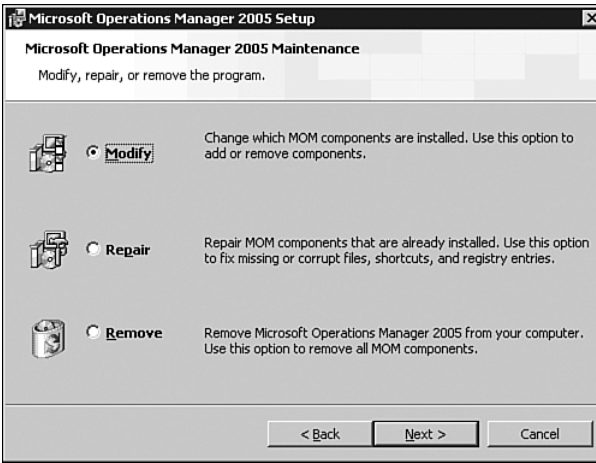

FIGURE 19.1 The Modify option of the MOM 2005 Setup screen.
1. Navigate to Control Panel on the Management Server. Open Add or Remove Programs, select Microsoft Operations Manager 2005, and click on the Change button. From the Microsoft Operations Manager 2005 Setup Welcome screen, select Next. As shown in Figure 19.1, you are given the options to Modify, Repair, or Remove MOM 2005. Select Modify.